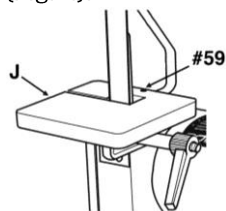

Fig. 8
9. Before tightening the set screw (#59) and locking the belt table (J) in place, adjust as needed (Fig. 8).